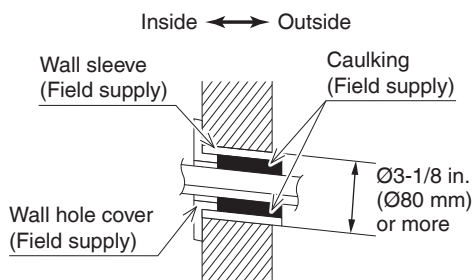

Fig. 11
- Be sure to caulk the gaps around the pipes with caulking material to prevent water leakage. **(Refer to Fig. 11)**